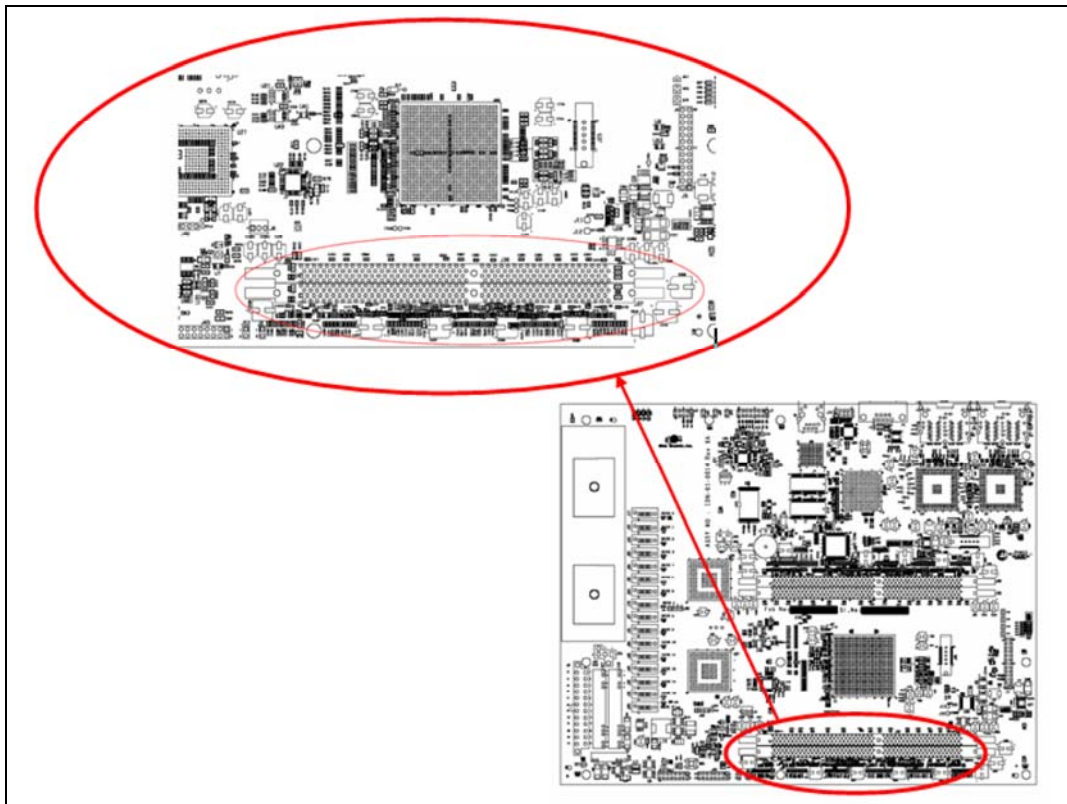

Figure A-3. Buffer Memory DIMM Sockets
4. Locate the DIMM socket where you will be removing or installing the DIMM (see Figures A-3 and A-4).